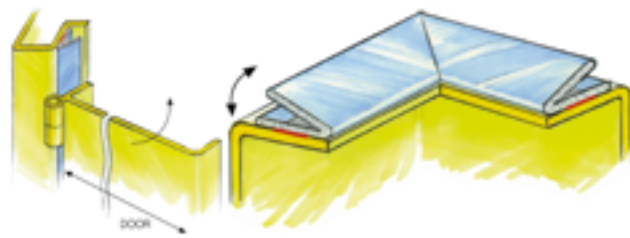

Figure 55: V-shape gasket to prevent high closure force
- 55 To prevent high closure force** V-shaped gaskets can be used which clamp the door not in the direction of the opening but in the direction of the door, so only the friction force is the closing force. (Fig. 55)